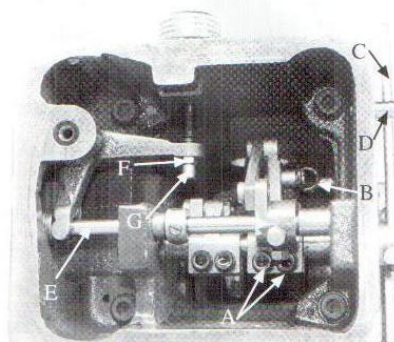
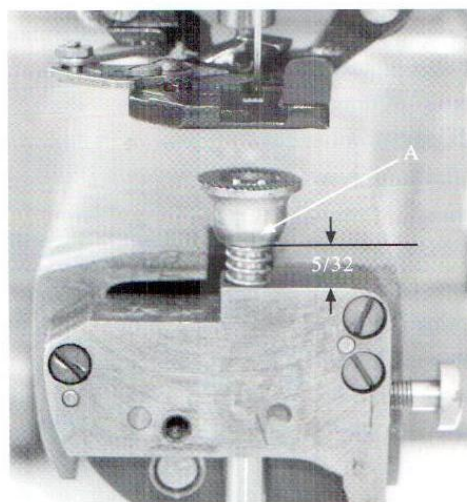
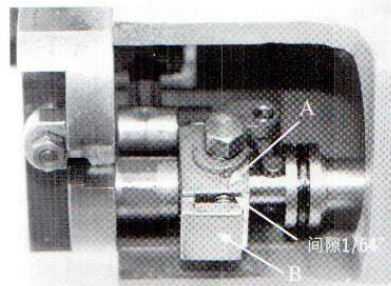
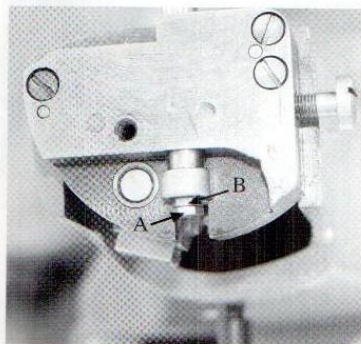

Fig. 8
Fig. 9
Fig. 10
Fig. 11
and usually does not have to be adjusted. Should it become necessary to do so, the proper setting may be obtained as follows: Tip machine on its side and loosen clamp screws (A, Fig.8). Disengage spring (B) from crank roll. Depress lever (C) until it rests against its stop pin(D). Turn plunger shaft (E) clockwise until bottom of work clamp (A, Fig.9) is 5/32 inch above plunger bearing block. Tighten clamp screws(A, Fig.8) and re-engage spring(B).
With machine in stop position, tilt machine on side, pull penetration dial out, and turn clockwise as far as it will go. Loosen locknut (F, Fig.8), and adjust screw (G) until space between plunger block (A, Fig.10) and crank (B) is 1/64 inch. Lock nut (F, Fig.8) securely. Tip machine back, engage clutch, and turn pulley in operating direction until point of looper is over center of needle. Loosen locknut(A, Fig.11) and adjust plunger up or down by means of nut(B) until point of looper just contacts needle. Lock nut (A) securely.